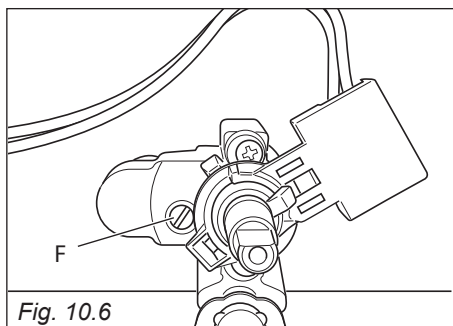

Fig. 10.6
- With a thin screwdriver turn the screw "F" until adjustment is correct (fig. 10.6).